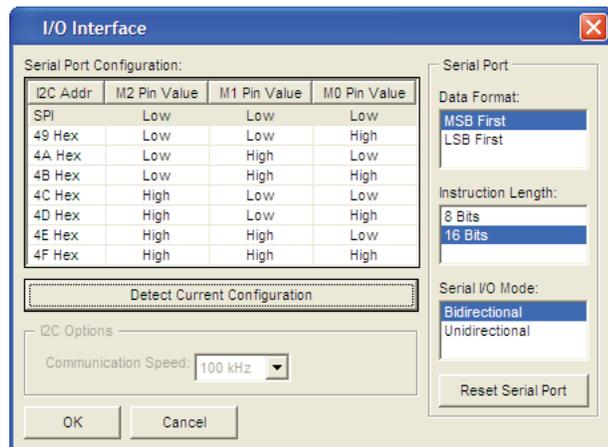

Figure 31. Serial Port Configuration
5. Repeat Step 4 for both the SERIALCLK and ground pins on Header P6 of the AD9548 evaluation board to the SCL pin and ground pin of the target board, respectively. On the evaluation software, select **Configure Serial Port** from the **I/O** menu. This window is shown in Figure 31.